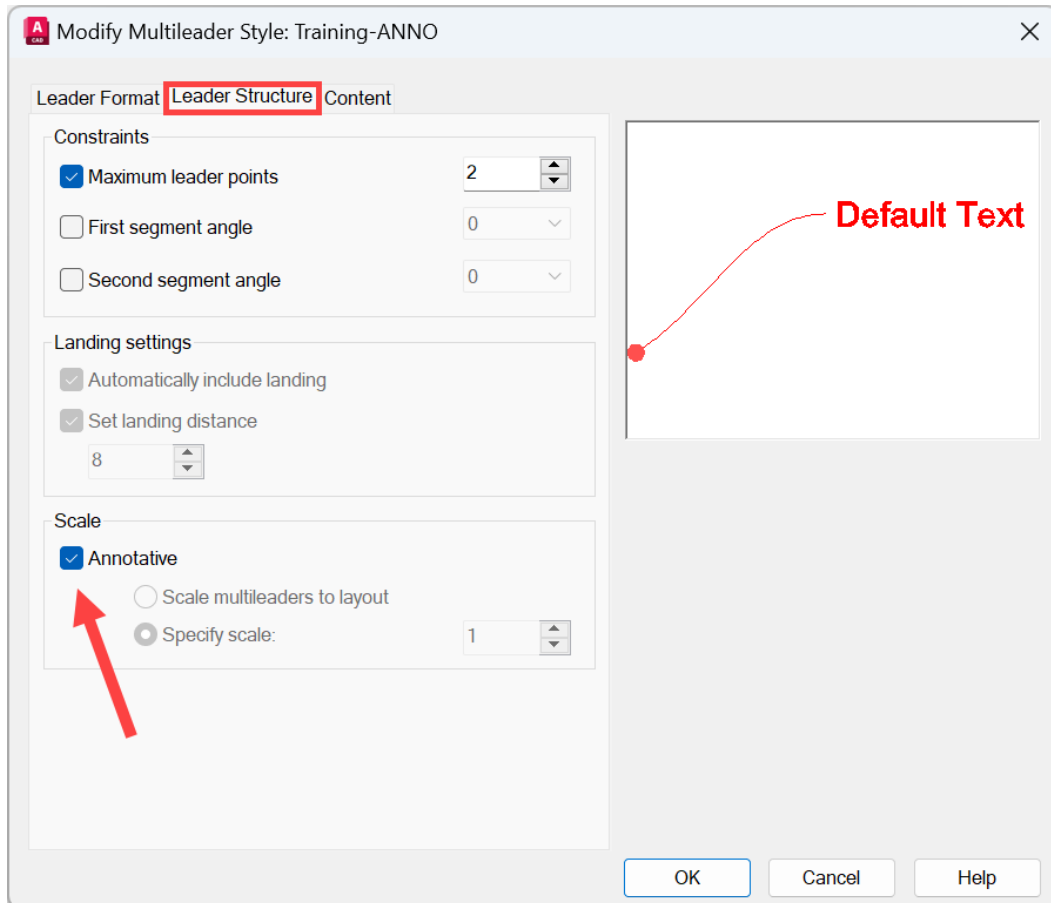

Figure 7.27: The Leader Structure tab as current, ensuring that the Annotative checkbox is checked (arrowed)
8. There are no settings that need to be changed in this tab. Just ensure that they are the same as shown in *Figure 7.27*, and that the **Annotative** checkbox is checked, making it an annotative multileader style.